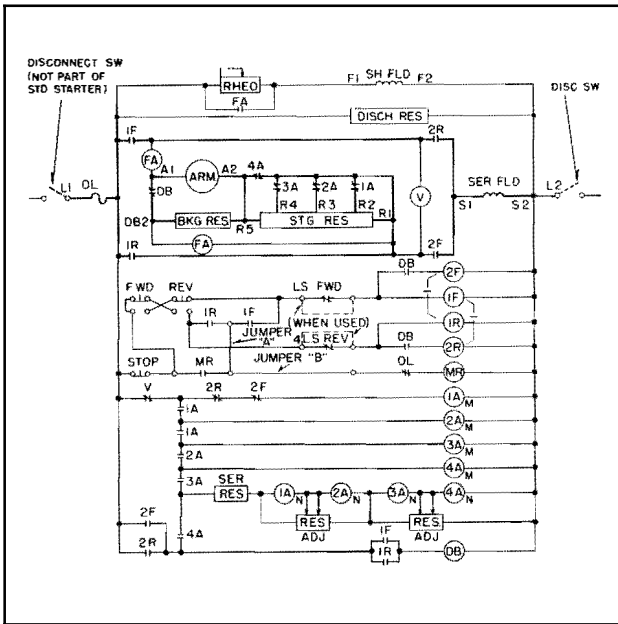

FIG. 2. Typical Schematic Diagram for Class 9022-F Timestarter with Five Accelerating Points.
Fig. 2 is typical of the larger controllers featuring the type "AQ" timetactors. Depression of either the "Forward" or "Reverse" button energizes its first directional contactor whose interlocks, through
**Optional Master Switches.** Although Figs. 2 and 3 show the standard "Forward-Reverse-Stop" pushbutton, the diagrams furnished with Class 9022 starters also include connections for other master switch arrangements, such as, inching (jogging) from 2 button station, operation from rotary or drum master switch, automatic and inching operation from 5-button station, marked "Forward-Inch Forward-Reverse-Inch Reverse-Stop", and a Combination of drum master switch and "Inch Forward-Inch Reverse" pushbuttons.